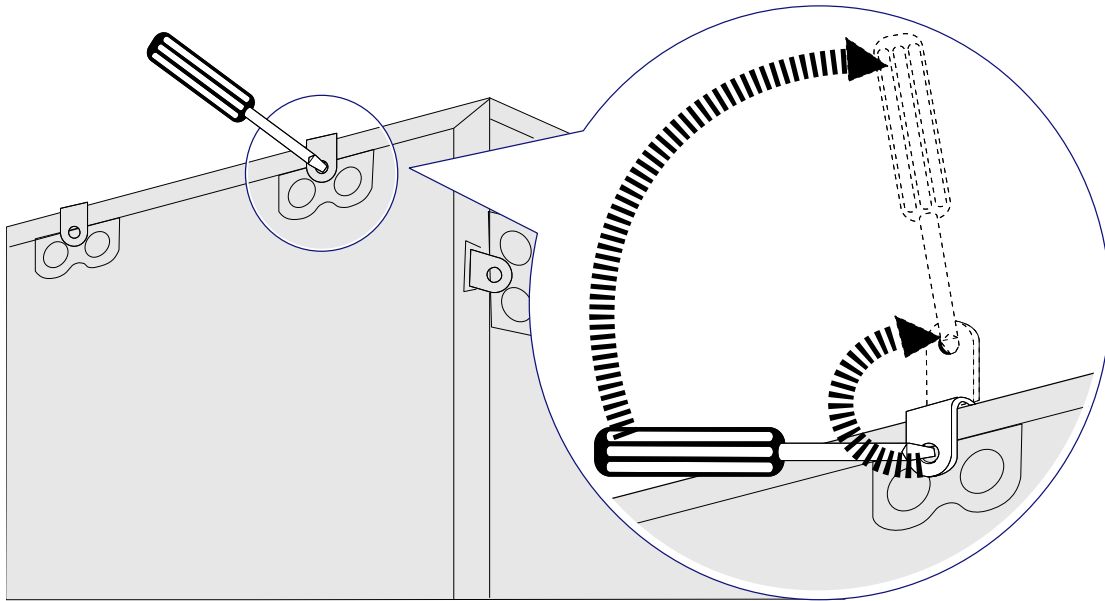

Figure 3-2 Removing the Cover
**Step 3** Use a Claw hammer or a straight screwdriver to pry the tongue, as shown in Figure 3-2.